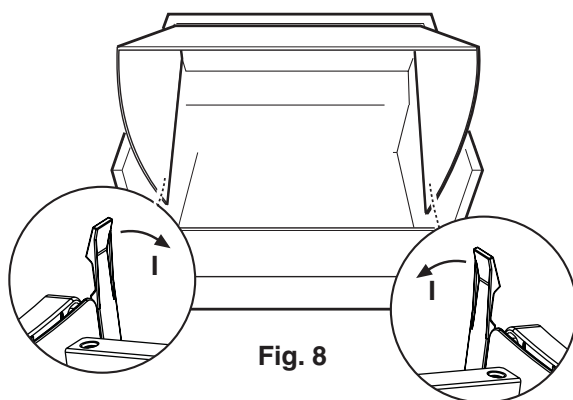

Fig. 8
- Remove the visor (freeing the locking releases **Fig. 8, I**).